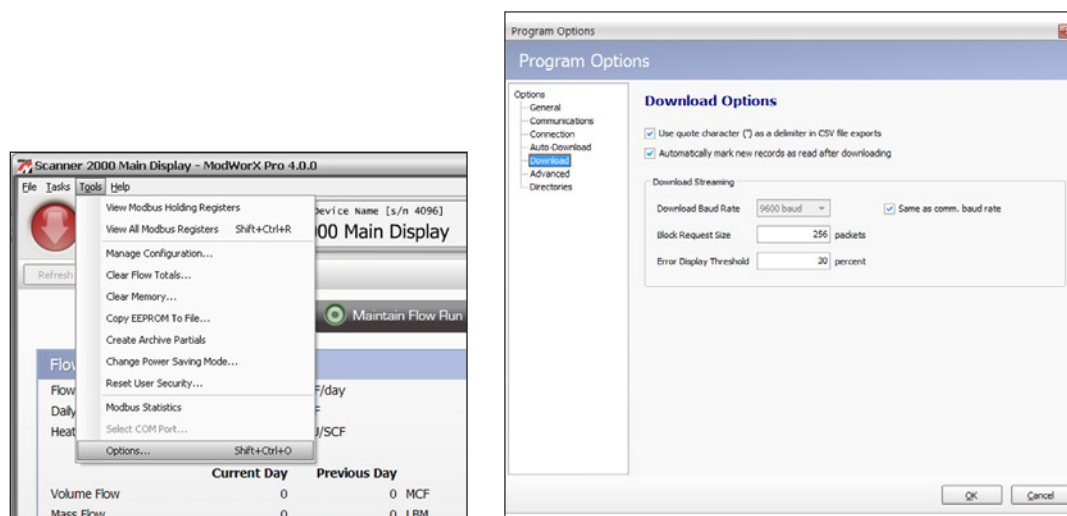

Figure A.22
1. Click **Tools>Options** in the task bar (Figure A.22, page A-16).